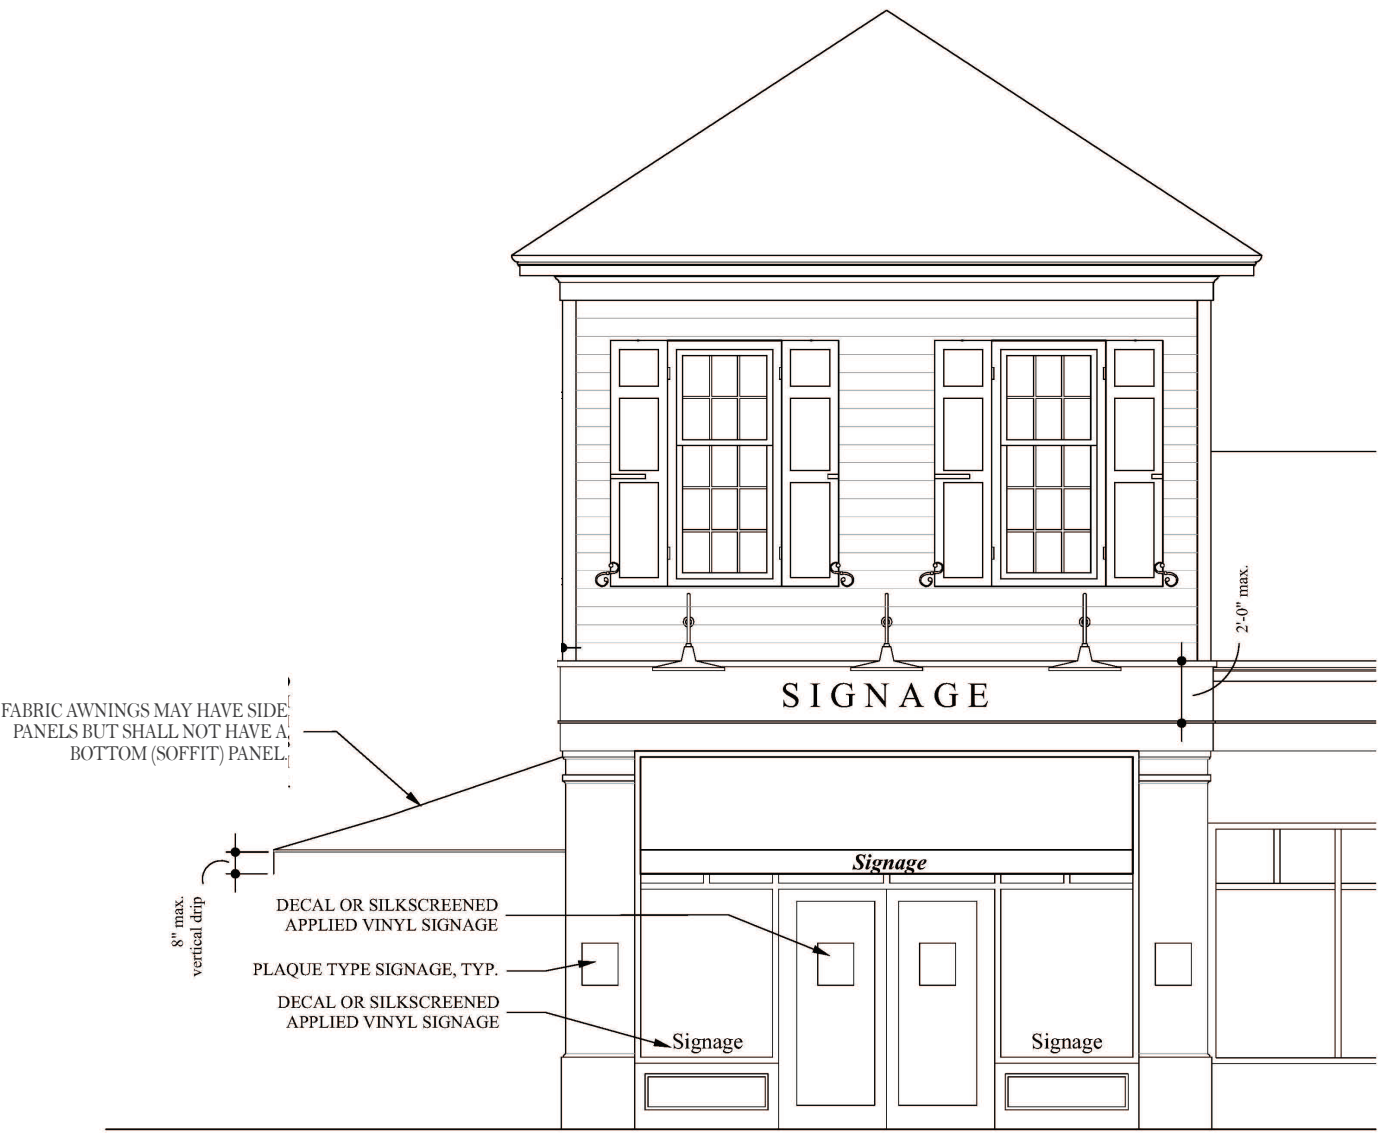

Figure 3
- » Individual retail or office signage is encouraged to create visual interest for the pedestrian. See Figure 3.
- » Signs may contain multiple individual signs which refer to tenants of the building. See Figure 3.
- » Fabric awnings may have side panels but shall not have a bottom (soffit) panel. The vertical drip of an awning may be stenciled with signage a maximum of 8" in height. Awnings shall not be backlit. See Figure 3.